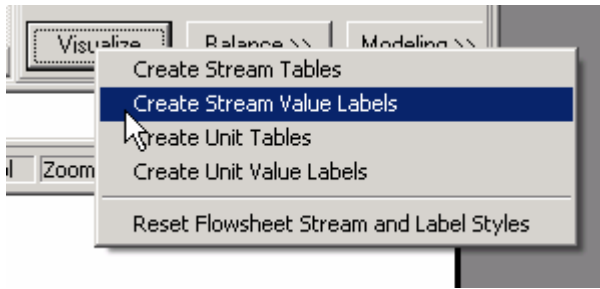

Figure 23. Selecting streams.
- In the bottom right-hand corner press **Visualize** and select "Create Stream Value Labels" (Figure 23)